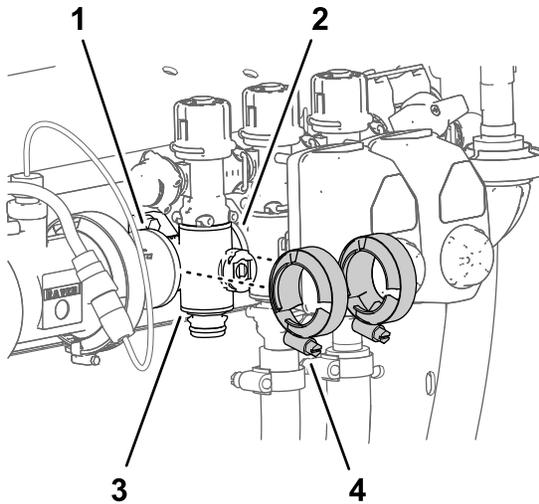

Figure 129
- Loosely assemble the flange clamps that you removed in Removing the Section-Manifold Valve \(page 83\) to the flanges of the section-valve manifold and the flanges of the other section-valve (s) and/or coupling adapter (Figure 129).
- Tighten the 2 flange clamps by hand (Figure 129).